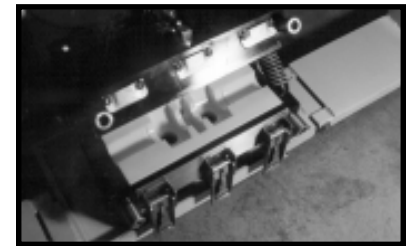

Fig. 1
- 1 Unfold the carts arms. Unlatch the housing (as illustrated on page 2, figure 1). Insert the wire rope into the housing and between the guide rollers.
- 3 Check to insure the air regulator valve (C) is turned counter clockwise to the closed position and the air supply valve (D) is closed before connecting to the air supply.
- 4 Connect Your air supply hose to coupling (G), and open the air supply valve. (D)
- 5 Open the air regulator valve (C) clockwise until the air gauge reads between 35 - 50 psi. (A)
- 1 Close the air regulator valve (C), until the gauge (A) reads zero this will stop the pump.
- 2 Leave the air supply valve (D) open for 1 or 2 minutes to remove the excess oil from the system.
- 3 Close the air supply valve (D).
- 4 Unlatch the housing as shown in Fig.1 and remove the wire rope.